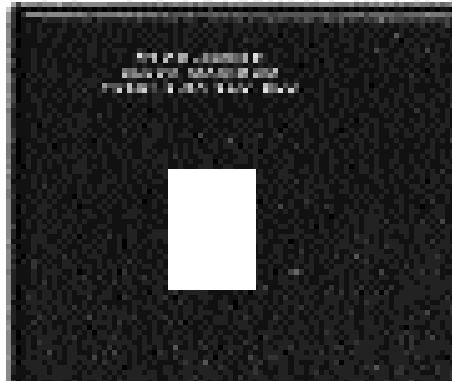

FIGURE 5
- The AC power fuse is intact and has not blown. If the fuse has blown, the thin metal conductor will have melted and the glass may appear "smoked". If the fuse has blown, replace with a fuse of the same rating (3.5 Amp/250V slo-blo for 100 to 120 volt countries and 1.6 Amp/250V slo-blo for 220 to 240 volt countries). (See Figure 5)